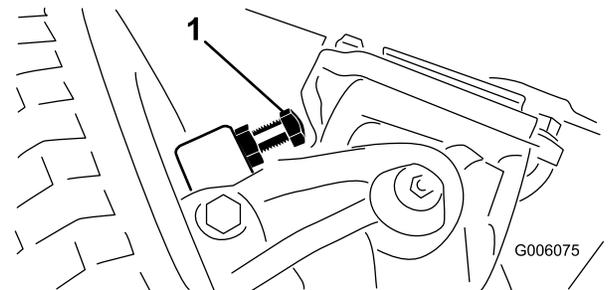

Figure 69
1. Thread the bolts in or out until you attain a clearance of 0.23 cm (0.090 inch); refer to Figure 69.